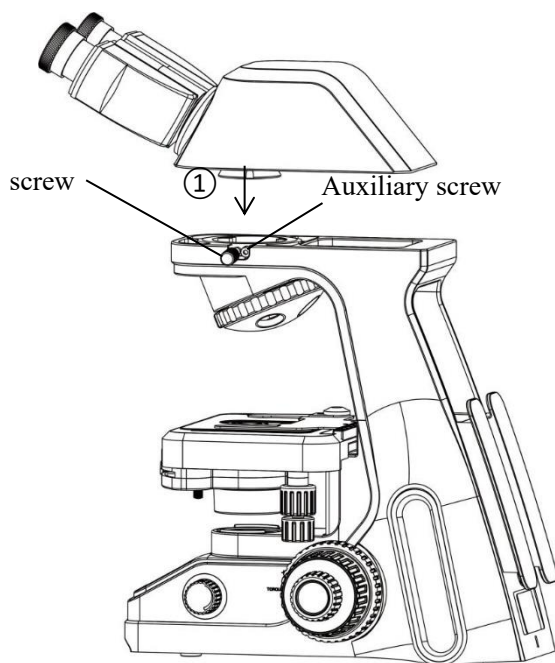

Fig.1
#### 3-2-1 Installing the viewing head (Fig.1)
Install the viewing head into the microscope circular swallow tail by the path ① shown in Fig.1, tighten the auxiliary screw and turn it to the proper position, then fix up it by bolt.